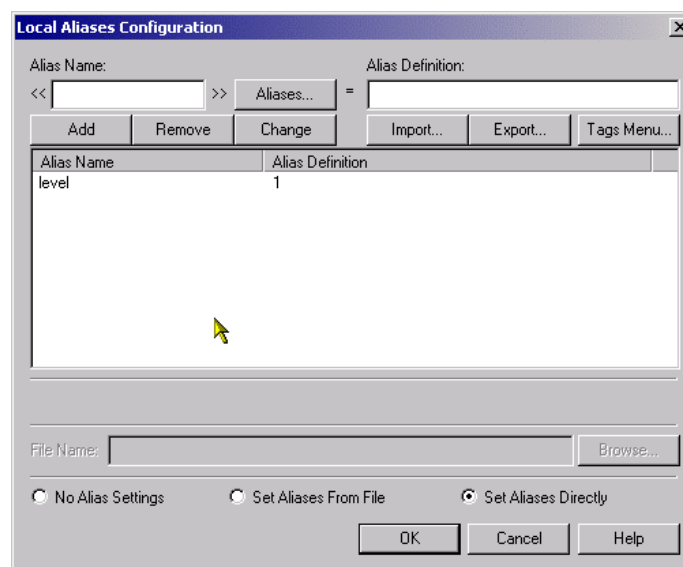

Figure 5.38
14. In the **Property Inspector**, select the **Set Aliases** button then **Local Aliases**. For the **Alias name** enter **level**, and set the **Alias Definition** to be **1**. Click add and verify that the setup is as shown in **Figure 5.38**. Click **Ok** to close the **Local Aliases Configuration**, and again to close the Menu Item **Property Inspector**.